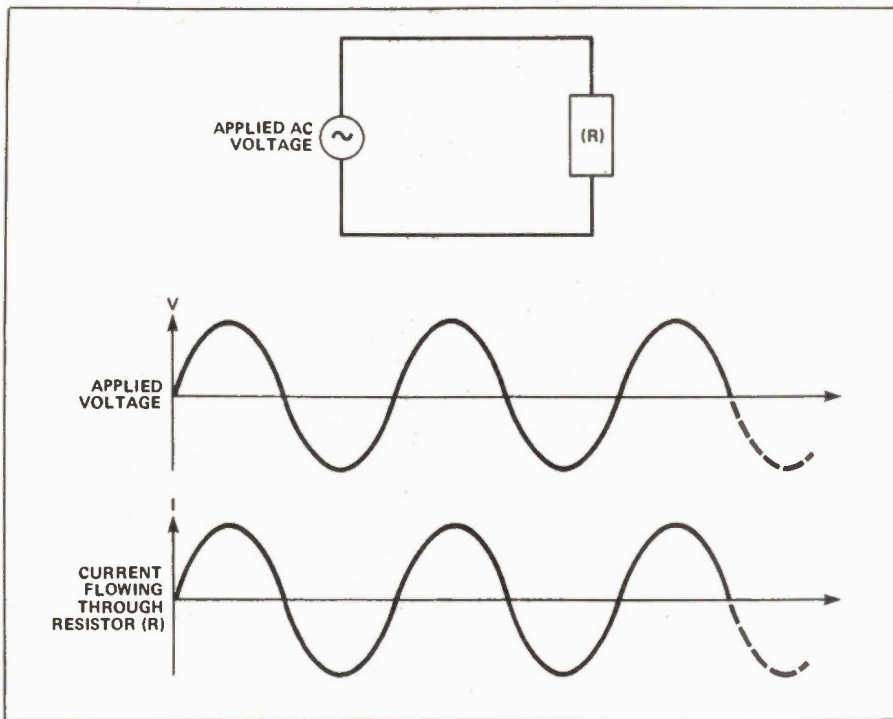

Fig. 3. When alternating voltage is applied through a resistor, the current varies with the voltage just as it does with direct current.
Now back to Mr. Ohm and his law. Fig. 3 shows an alternating voltage being applied across the same resistance as in Fig. 1. The only difference this time is that voltage is alternating and changing polarity. As you would expect when the voltage varies, the current also varies in a similar way. The voltage and current keep in step with each other. As the voltage increases in one direction, so the current also increases. Ohm's Law is still holding true even though the voltage is not staying still.
Impedance can be defined as the Alternating Current (AC) equivalent of DC 'resistance'. The example in Fig. 3 has illustrated that for a pure resistance, the impedance is the same as the resistance. It is only when components other than